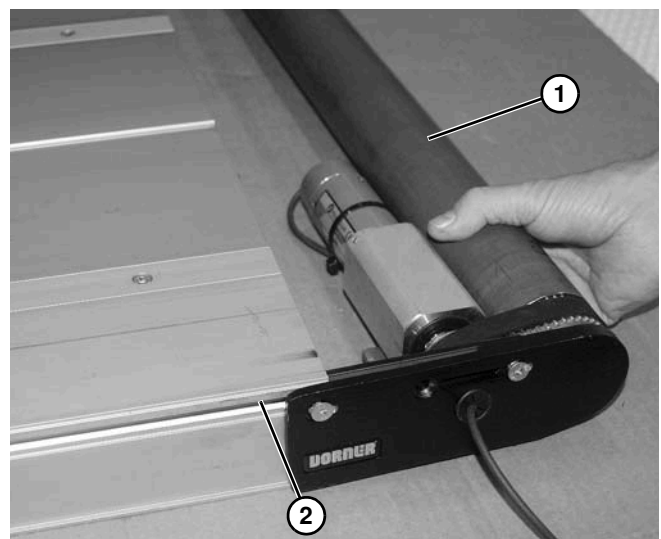

Figure 99
5. Remove drive end assembly (**Figure 99, item 1**) from slots (**Figure 99, item 2**) on conveyor frame.